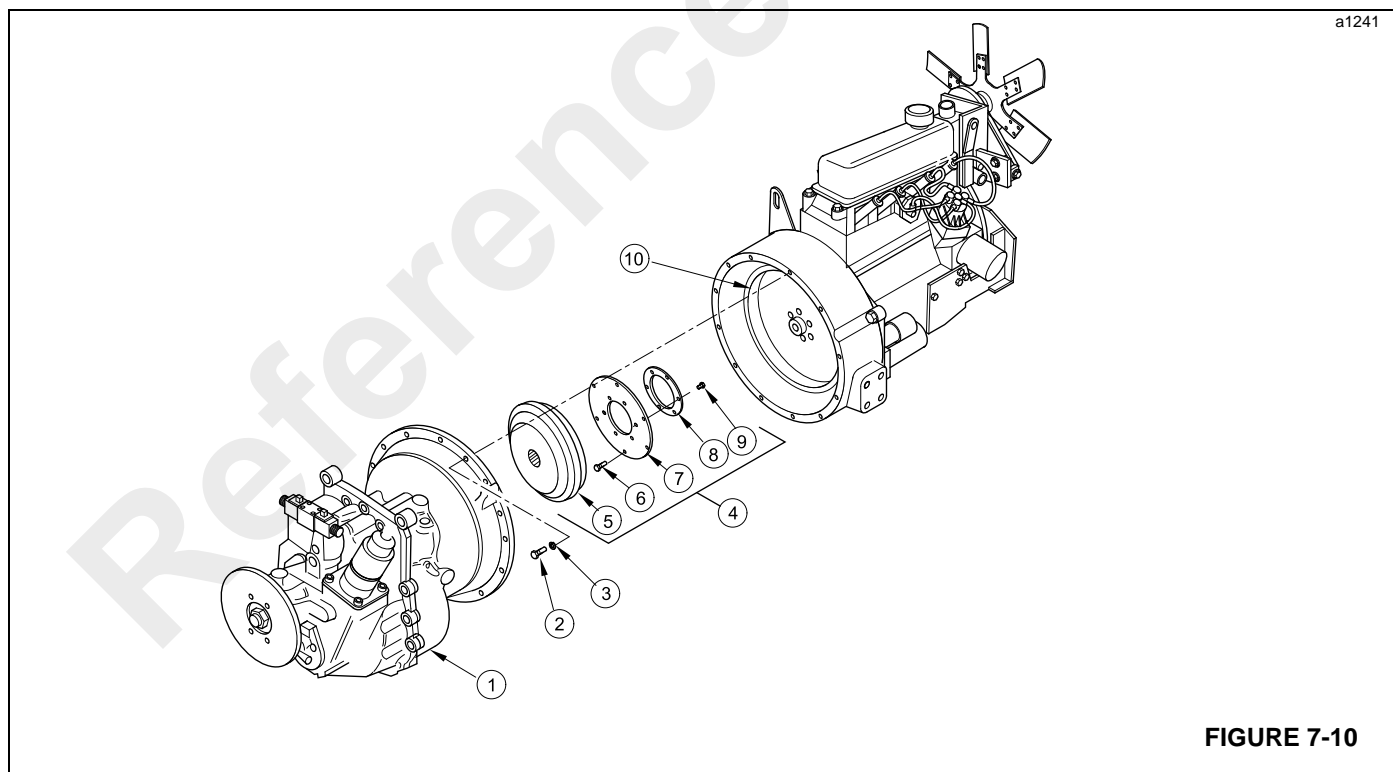

FIGURE 7-10
3. Using an overhead crane and chains, support the weight of the transmission and remove the twelve capscrews (2, Figure 7-10) and lockwashers (3) securing the transmission to the engine flywheel housing.
2. Install twelve bolts (2, Figure 7-10) and lockwashers (3). Tighten bolts to a torque of 31 Nm (23 lb-ft).
4. Using an overhead crane and chains to support the weight of the transmission, remove the 12 bolts (2, Figure 7-10) and lockwashers (3) that fasten the transmission housing (1) to the engine flywheel housing. Remove the transmission and torque converter assembly and place in a clean, work area where the